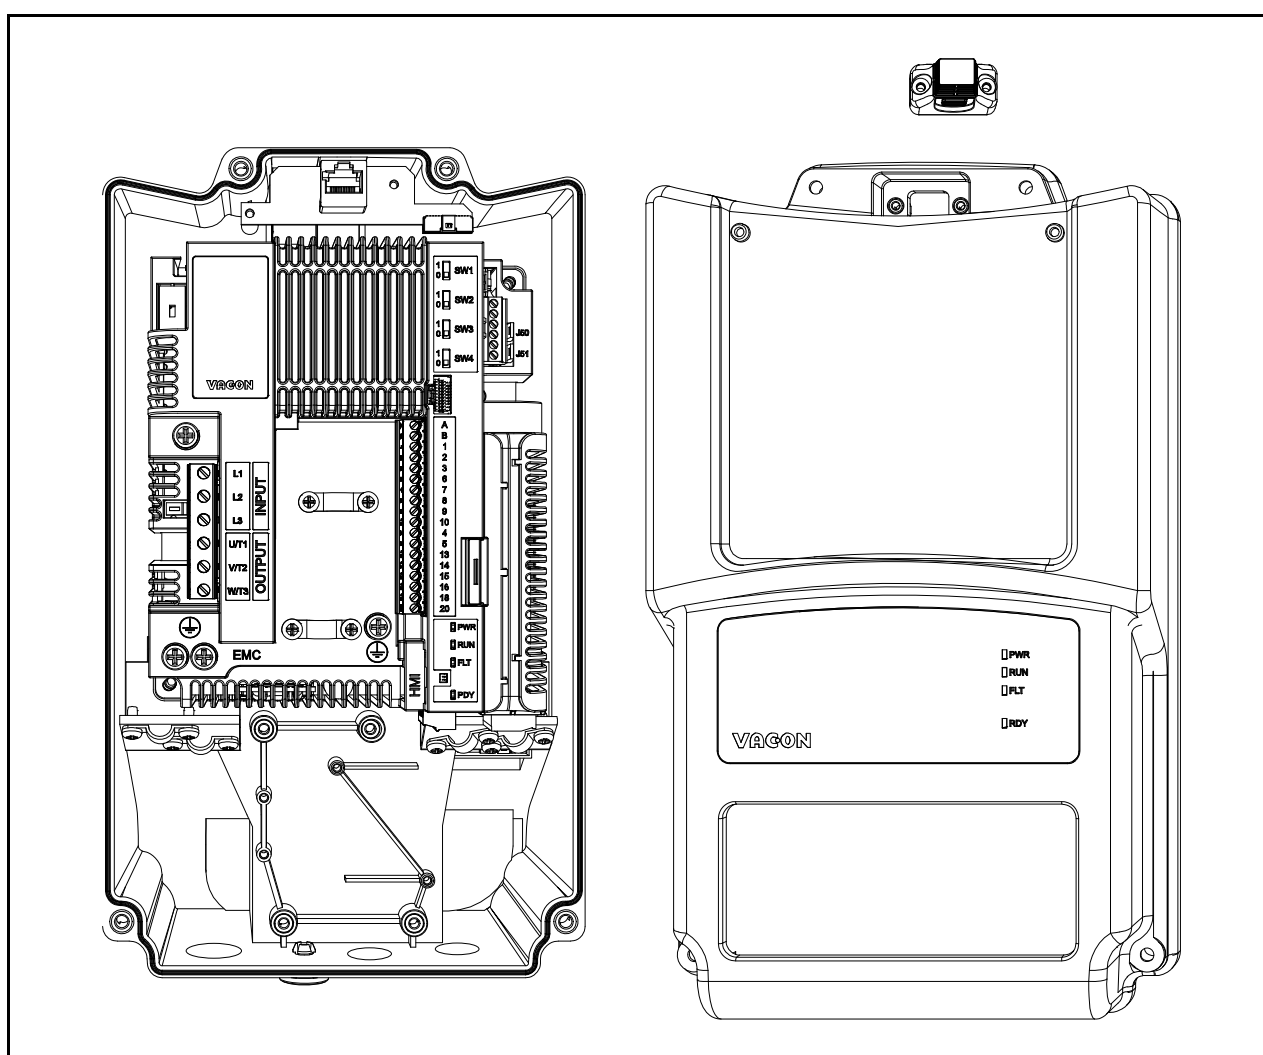

Figure 67. Cover open (MU2 3-phase example).
- Remove the HMI cap and the cover from the drive. See the Figure 67.